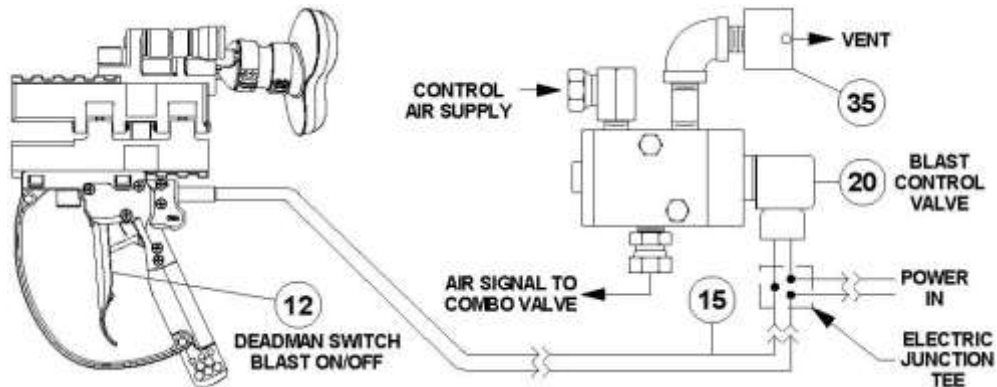
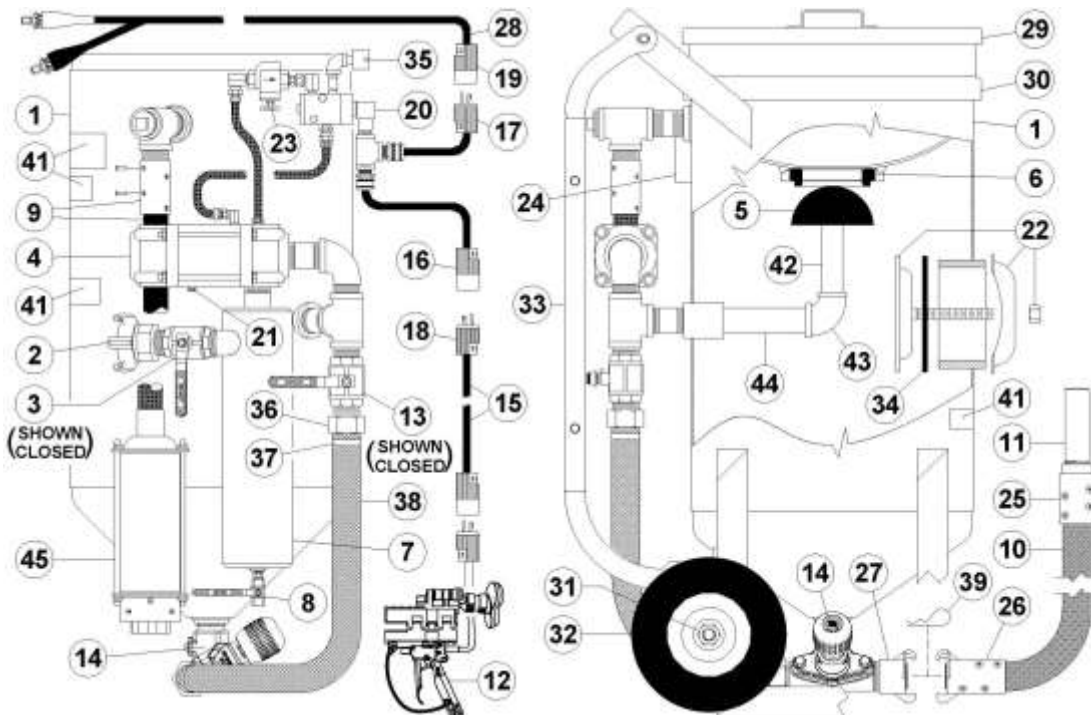

Figure 5.4 – MV3 Valve Electric Deadman Blast Control System
Figure 5.5 – MV3 Valve Abrasive Blaster with electric blast controls
5.8.2. Electric Deadman System: When the electric trigger deadman lever (#12) is pressed back it closes the electric circuit and supplies electric current to the control valve (#20). The control valve opens and sends air signals to the ComboValve® (#4) to begin blasting. When the trigger deadman lever is released, the electric circuit is turned off which closes the control valve. The signal air vents from the breather (#35) and the ComboValve closes to stop blasting. See Figure 5.4, Figure 5.5, and the drawing in Section 9.3.
Figure 5.5 shows a MV3® Valve abrasive blaster with the electric deadman system. The popup valve, MV3 Valve, and ComboValve operate the same as a blaster with a pneumatic blast control system. The difference is that the electric control system uses an electric control valve (#20) operated by the electric deadman switch as detailed in Section 5.8.2.